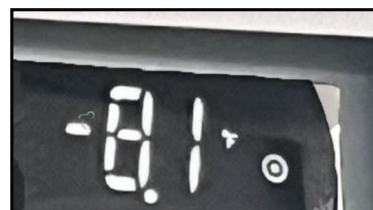

Fig. 93 Remote Display
3. Check that the remote display at the top of the case confirms the compressor is running, that no faults are displaying, and that the current discharge air temperature is dropping (Fig. 93).